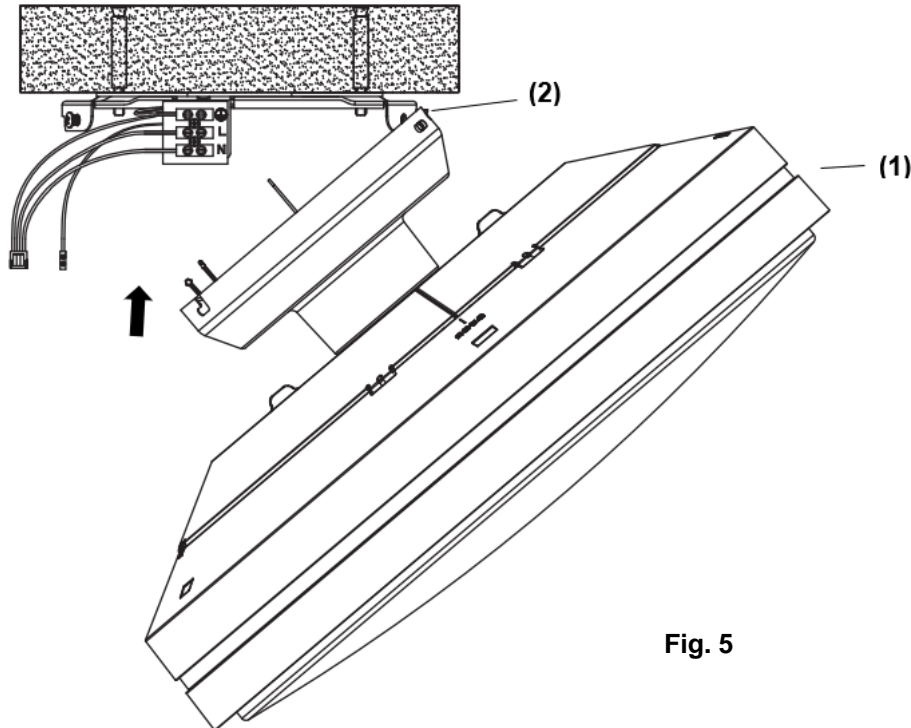

Fig. 5
- Lift the fan assembly (1) up to the mounting bracket. Hang the fan assembly onto the hook (2) of the mounting bracket. (Fig.5)